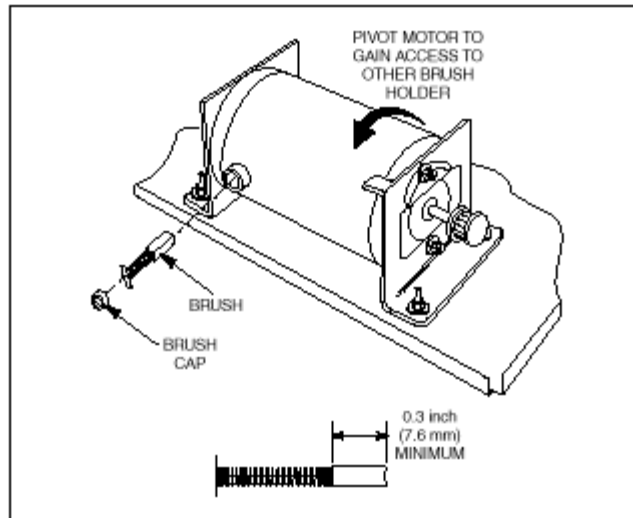

Figure 8. Inspecting and Replacing Brushes
- C) Refer to Figure 8 and remove the brush caps.